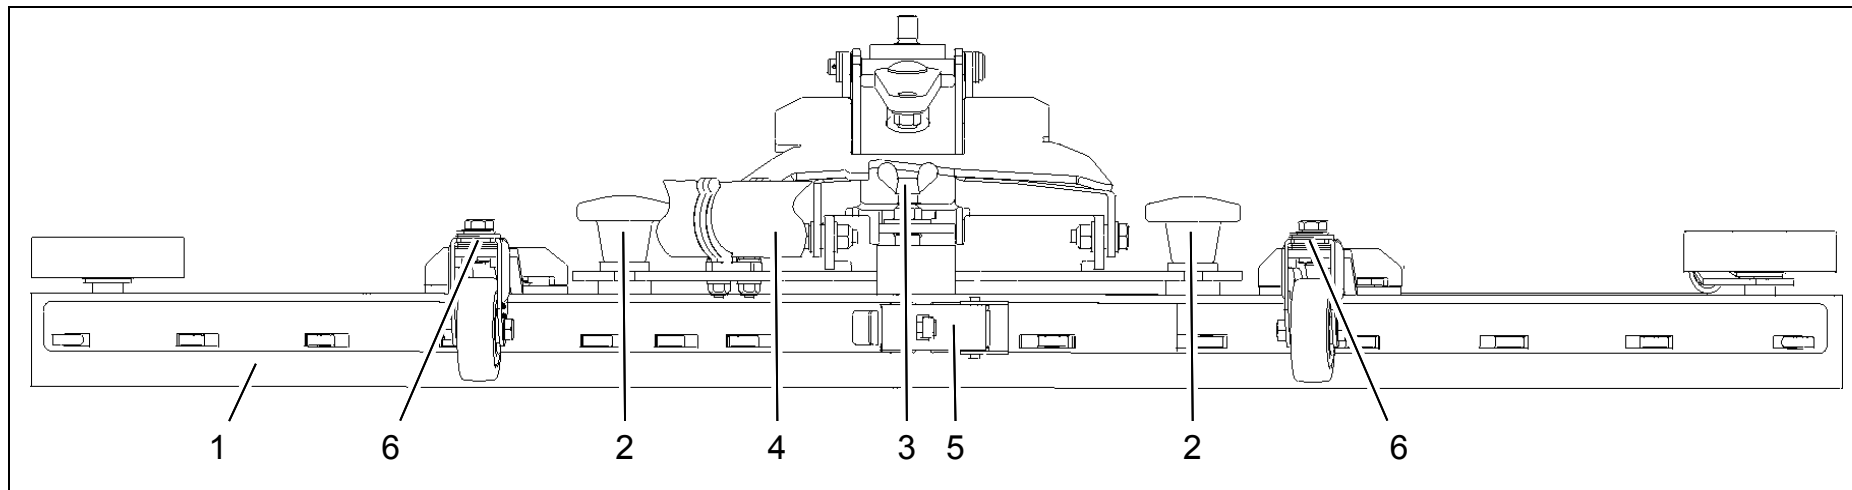

Fig.12
Check the squeegee (Fig. 12/1) daily and clean as necessary.
To clean it lift up the squeegee, pull off the suction hose (Fig. 12/4), loosen the two star-shaped knobs (Fig. 12/2) and remove the squeegee.
Check the inner and outer squeegee blades on the squeegee (Fig. 12/1) weekly for signs of wear. The squeegee blades can be used fourfold by turning them.
3. Unlock the fastening device (Fig. 12/5) and remove the outer squeegee blade. Turn the squeegee blade or install a new one. Change the inner squeegee blade in the same way.
2. Loosen the conternut on the adjusting screw (Fig. 12/3) and adjust the squeegee using the adjusting screw so that the ends of the squeegee blades have contact with the floor.